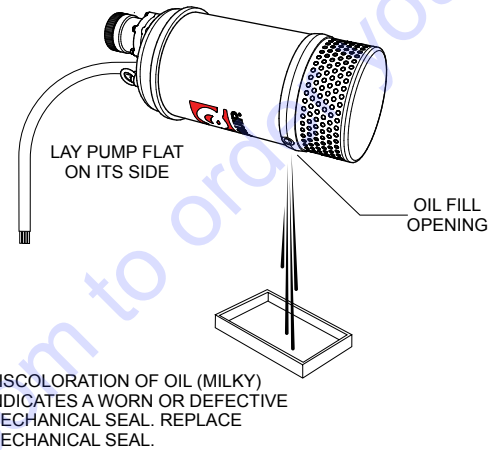

Figure 19. Lubrication Oil Inspection
1. Block the oil fill opening with a finger and roll pump to one side to drain (Figure 19) oil into a small transparent container.